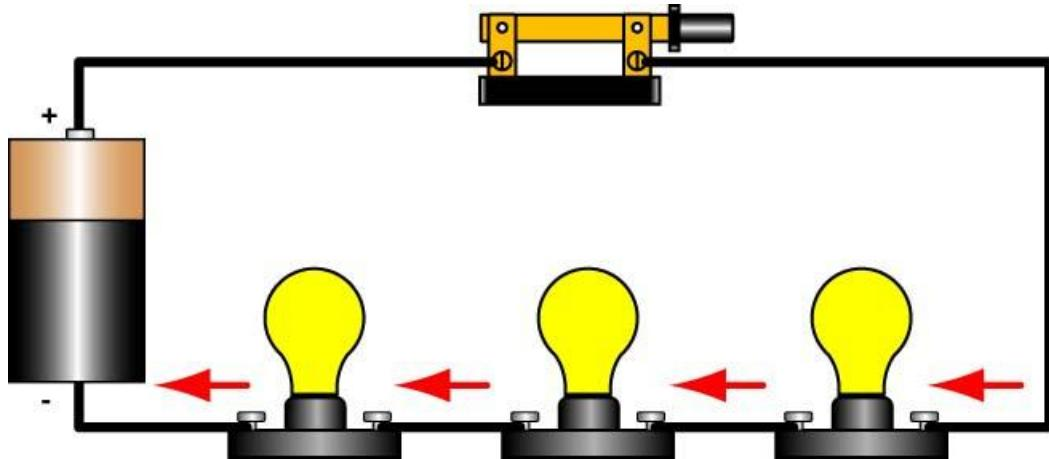

Figure 22: Three Lamps in Series with One Current Pathway
- **Series:** A circuit where the components are connected end to end in a chainlike manner. There is only one pathway for the current to flow. See Figure 22.